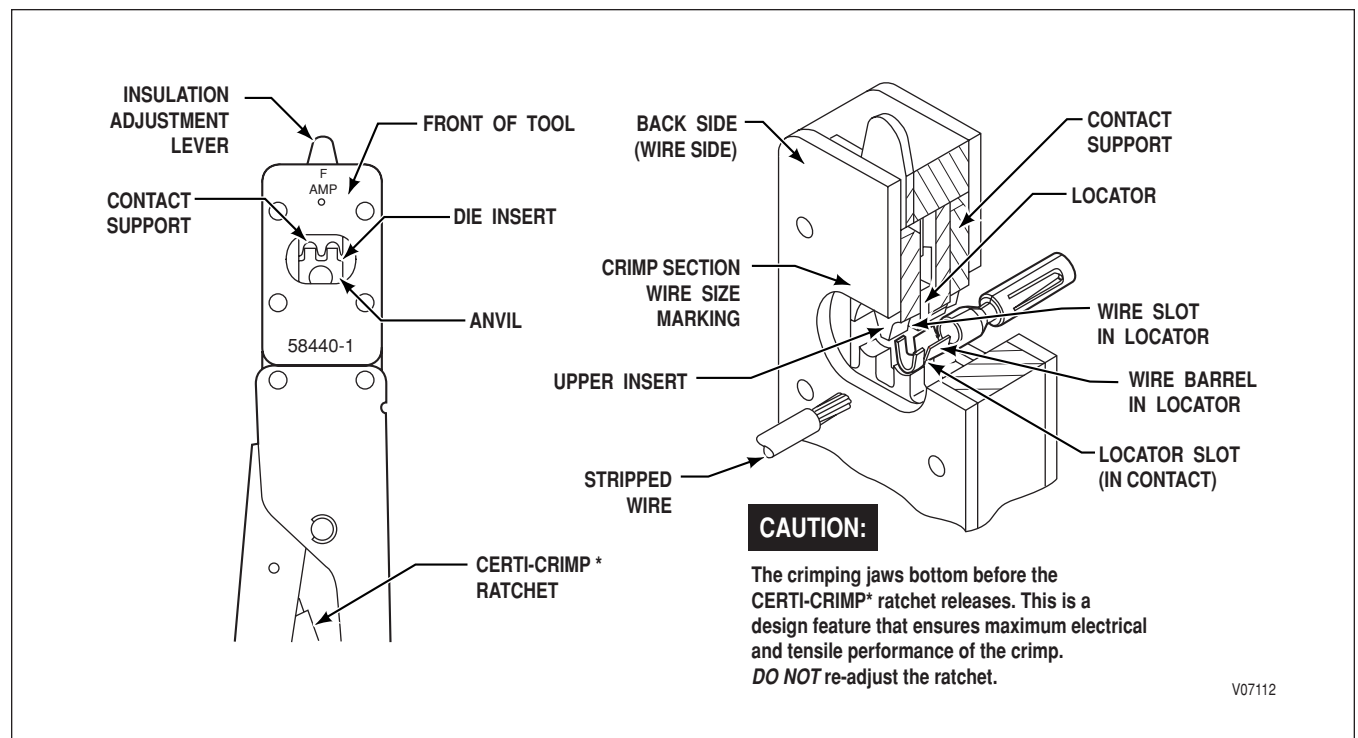

Figure E-15. Alternate AMP Crimper 58440-1
### E. Terminal Crimping Using Alternate Crimper 58440-1 (Figure E-15)
**APPENDIX E — CONNECTOR PART NUMBERS, TERMINAL PART NUMBERS, TOOL PART NUMBERS, AND REPAIR INSTRUCTIONS****E. Terminal Crimping Using Alternate Crimper 58440-1 (Figure E-15) (cont'd)**